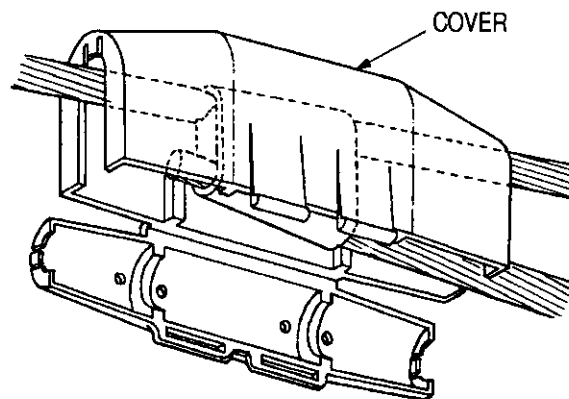

Figure 6
6. If the protective insulating cover is required, place cover over completed connection and snap shut. See Figure 6.